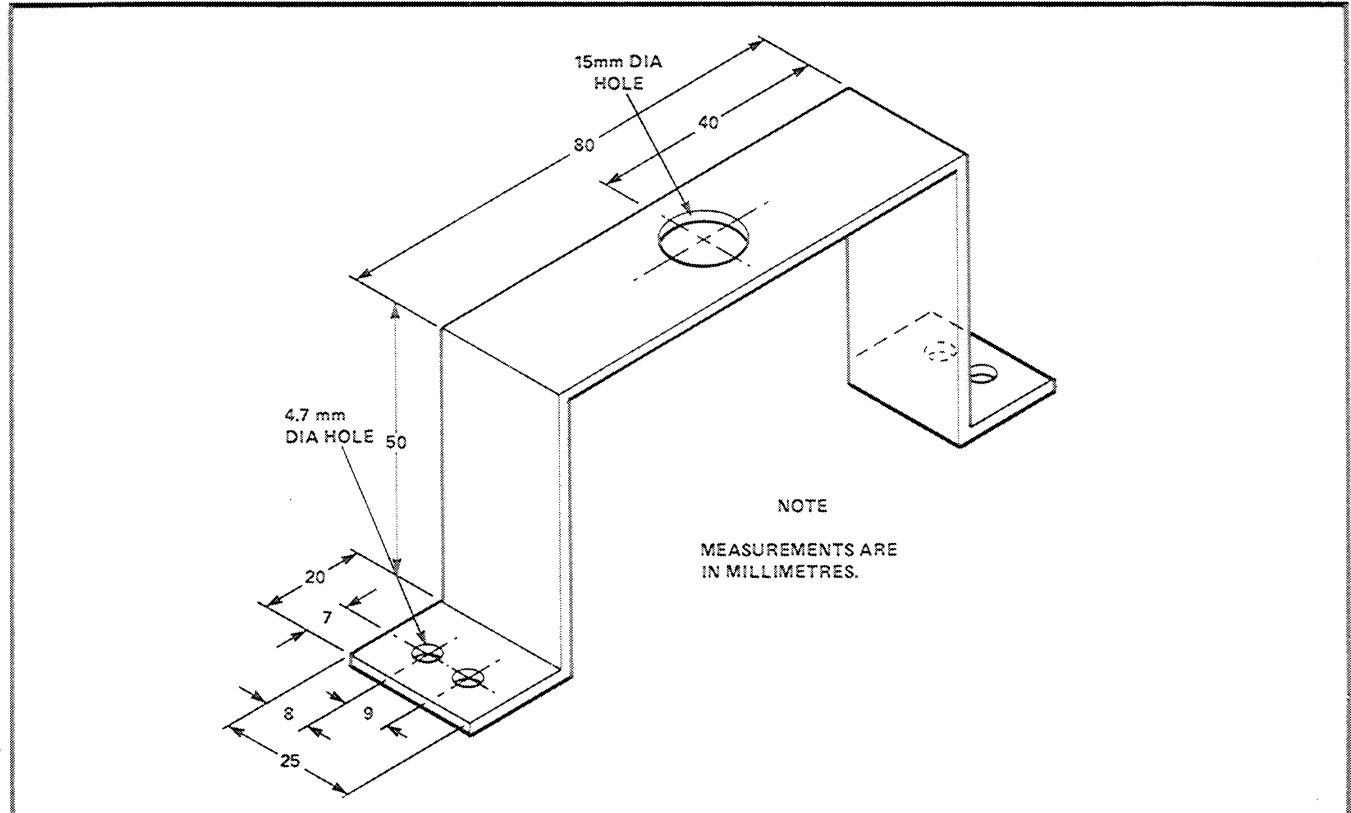

Figure 2 Fabrication of Siren Switch Mounting Bracket
9. To fabricate the siren switch mounting bracket, use steel or bar stock NSN 9510-21-663-5051, and shape to the dimensions shown in Figure 2. Prime and paint the bracket using olive drab paint, prior to installation.